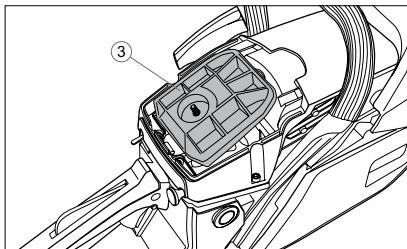

Fig. 25
2. Remove and clean the air filter 3 (fig. 25) by lightly tapping it on a hard surface.